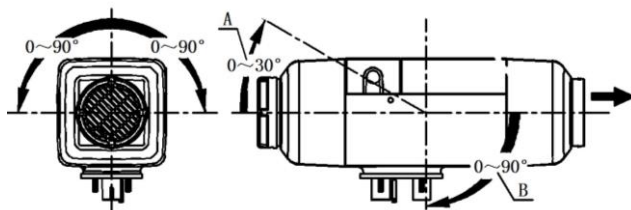

Fig.11
4.2.5 Direction for installation of the main heater is shown in Fig.11. Attention must be paid to that the inclination angle (A for gasoline heater, B for diesel heater) shall not exceed the limit showed in Fig.11, or normal operation will be affected.